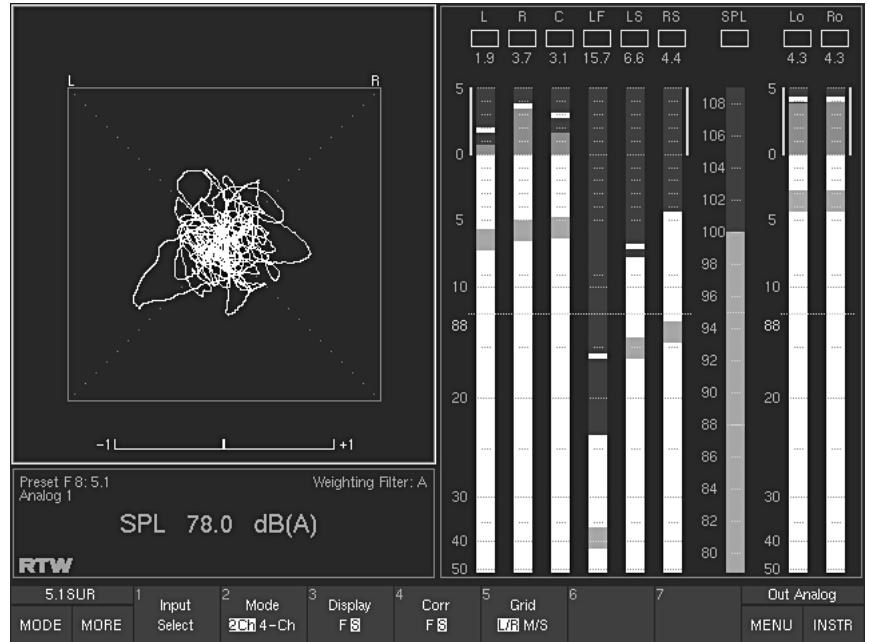

Fig. 5-15: The Audio Vectorscope instrument (VSC) in 5.1 Surround mode
(Button/key 1, see Fig. 5-15)
(Button/key 2, see Fig. 5-15)
(Button/key 3, see Fig. 5-15)
(Button/key 4, see Fig. 5-15)
(Button/key 5, see Fig. 5-15)